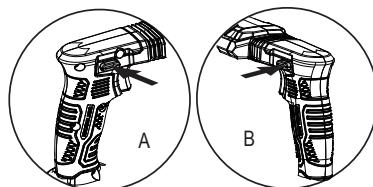

Fig.10
The tool can run in either forward or reverse to drive a bit in or out of a workpiece. The direction is controlled using the forward/reverse switch. Press the forward/reverse switch to the right as shown by (A) for forward rotation. Likewise, press the switch to the left as shown by (B) for reverse rotation. To prevent unintentional start when tool is not in use, press the forward/reverse switch to the center neutral position to lock the trigger (Fig.10).